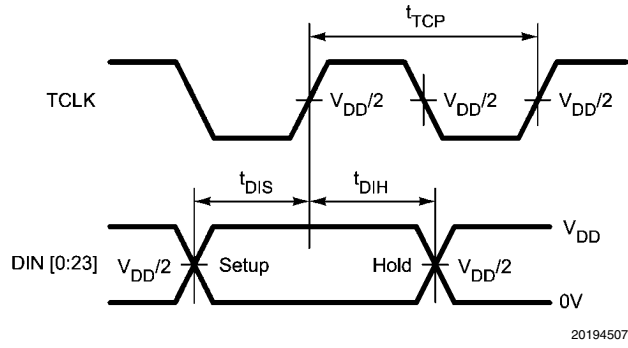

FIGURE 5. Serializer Setup/Hold Times
**Note 12:** Figures 5, 15, 16 show a rising edge data strobe (TCLK IN/RCLK OUT).